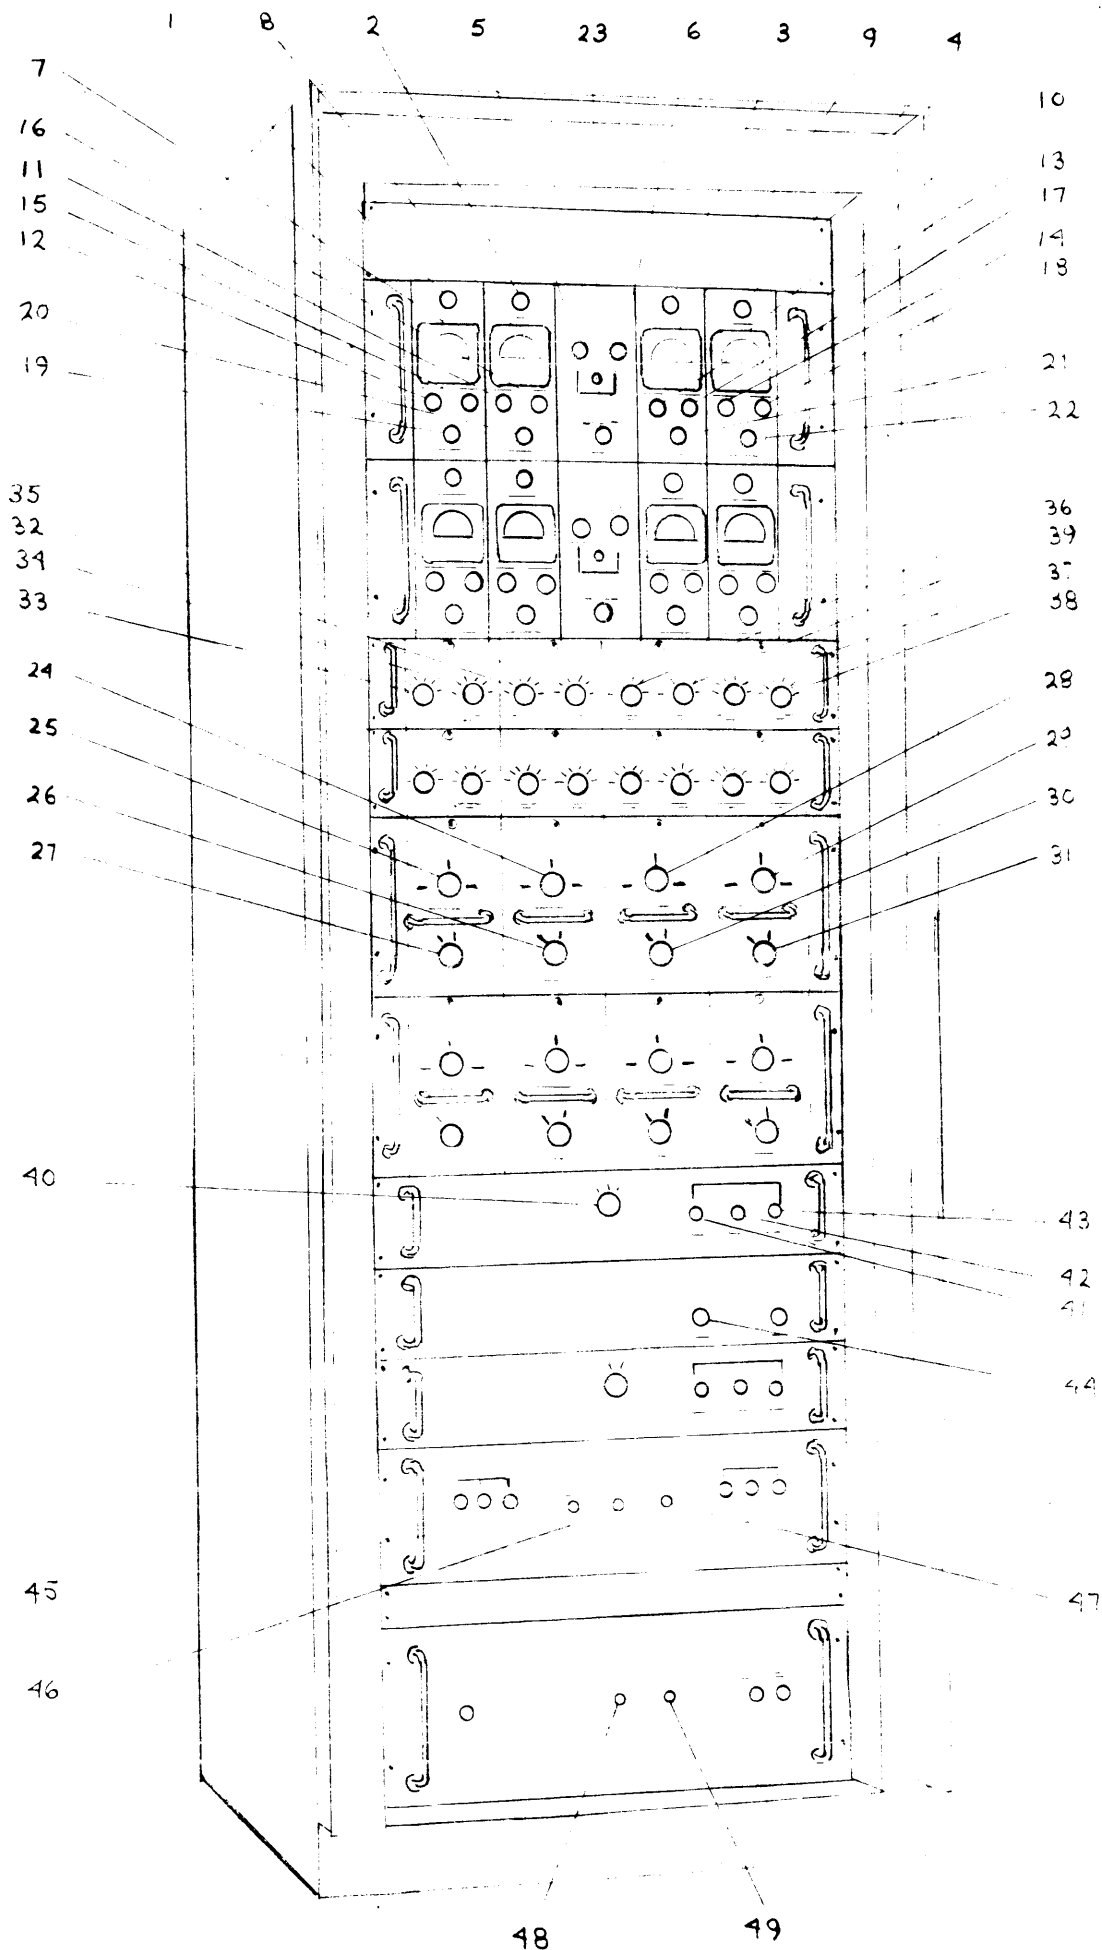

FIGURE 3-1 CONTROLS AND INDICATORS, MSG(A)-1
a. FRONT PANEL. - Figure 3-1 illustrates the location of all MSG(A)-1 front-panel controls and indicators used during normal operation with the exception of the MAIN POWER switch (refer to paragraph 3-2 b). Table 3-1 lists the controls and indicators and the function of each.
Haphazard operation or improper setting of MSG(A)-1 controls will result in poor reception. For this reason, the operator should first familiarize himself with all controls and indicators on the MSG(A)-1 (refer to figure 3-1 and table 3-1).
a. GENERAL. - The operator should observe that modular-unit controls, indicator lamps, and meters are in good condition and functioning properly (see figure 3-1 and table 3-1). Daily during operation, all electrical quantities measurable with built-in meters should be observed and compared with established standards for irregularity. Any noticeable irregularity is an indication of trouble.